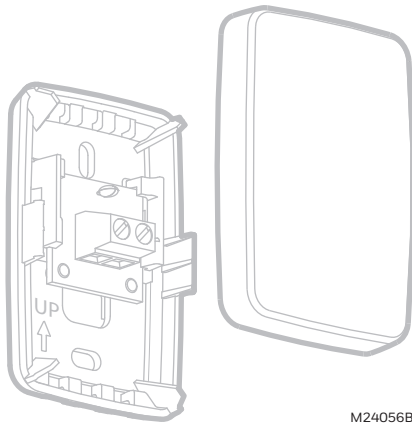

Fig. 68. Remove the cover.
1. Remove the cover from the remote sensor. See Fig. 68.